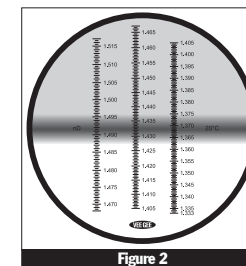

Figure 2
- 6 In the field of view, the boundary line may appear colored and/or blurry (Figures 2 & 3). If this is the case, turn the dispersion dial until the coloring and or blurriness is replaced by sharp contrast.